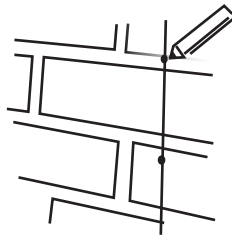

Figure 2.
- Line up clip to the chalk line and mark surface to where the holes will be drilled. Align the clips' end guides with the chalk line. (Figure 2)